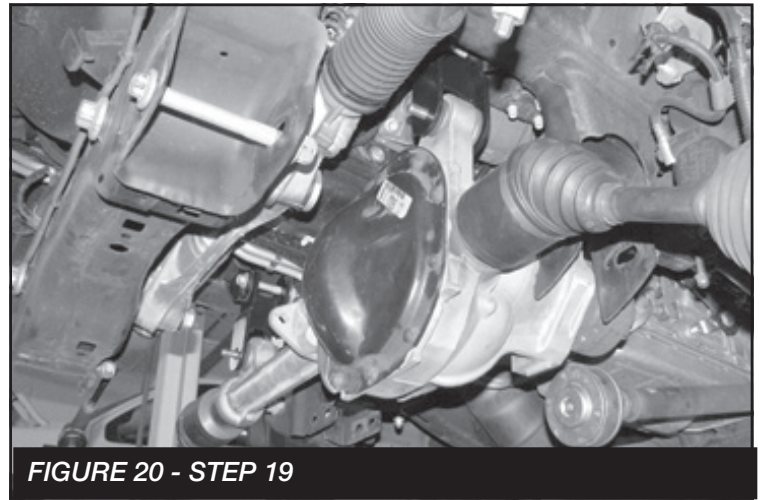

FIGURE 20 - STEP 19
19. Locate the factory front differential and install into the Fabtech upper differential mounts using two 1/2"-13 x 4" hex cap bolts, washers and lock nuts. Leave all hardware loose in preparation of the installation of the remaining differential mounts. **SEE FIGURE 20**